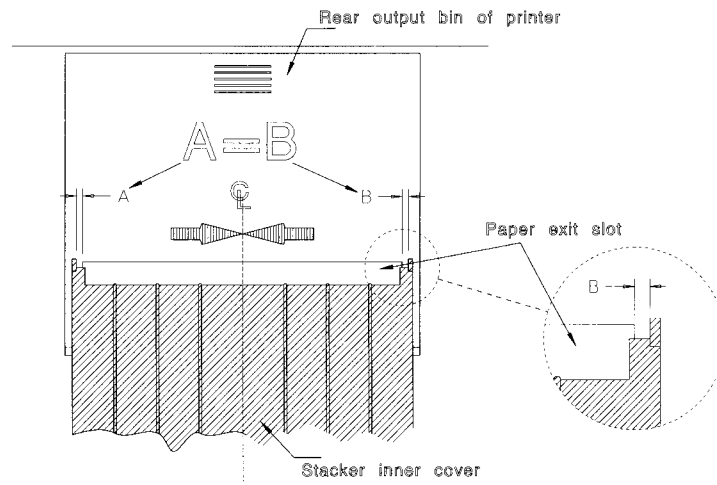

Figure 2-3. Checking the Transport Module Cover and Printer's Rear Exit Slot
3. Open the transport module cover to check that the printer's rear exit opening is centered evenly between the two tips of the transport module cover's inner guide as shown in Figure 2-3. Readjust the printer within the stacker cabinet's feet dimples for correct alignment if necessary. After readjustment, the printer's feet may not be centered in the dimples.